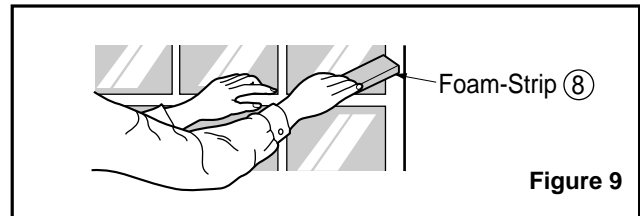

Figure 9
11. Cut the Foam-Strip ⑧ to the proper length and insert between the upper and lower window sash. (See Fig. 9)